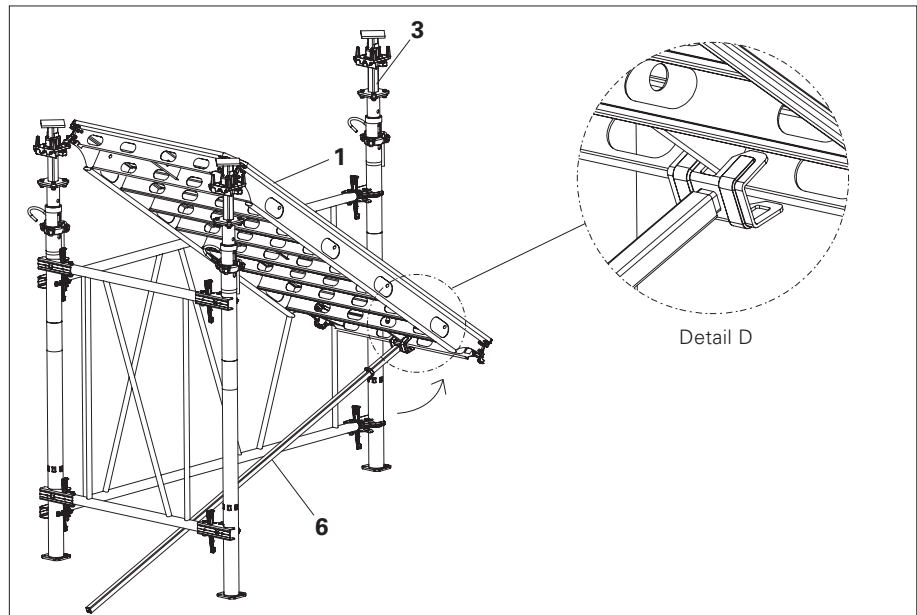

Fig. A5.03
6. Swing the panel ADP (1) upwards with the shuttering aid (6) and hook on the third prop (3). (Fig. A5.03).